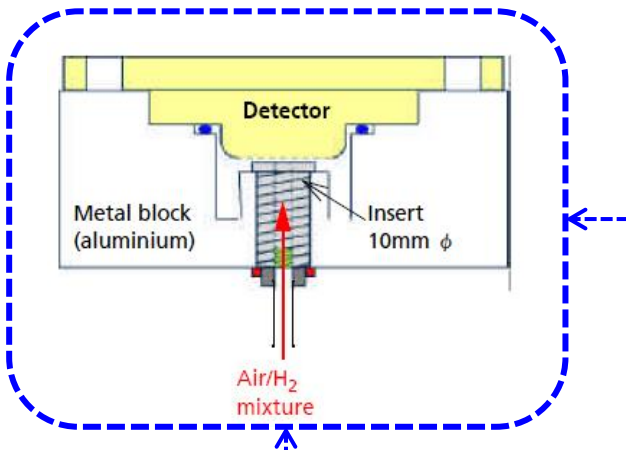

Fig. 11 Cross section of air flow attachment
- using the gas flow attachment shown in Fig. 11, the output signal level is the same as the standard condition.